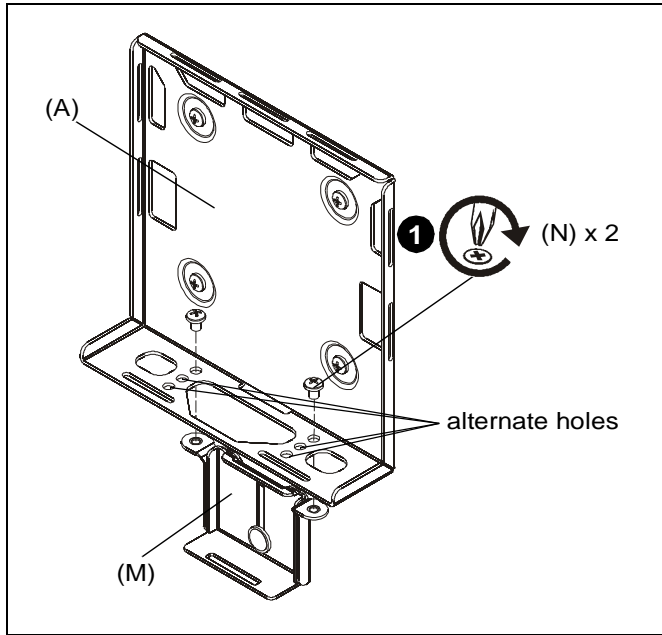

Figure 4
1. Use two #10-24 x 1/4" Phillips pan machine screws (N) to secure power brick bracket (M) to media player bracket (A). (See Figure 4)
**NOTE:** Alternate holes may be used depending on the size and shape of the power brick adapter. (See Figure 4)
2. Use cable ties (P) as necessary to secure power brick adapter to bracket (M).